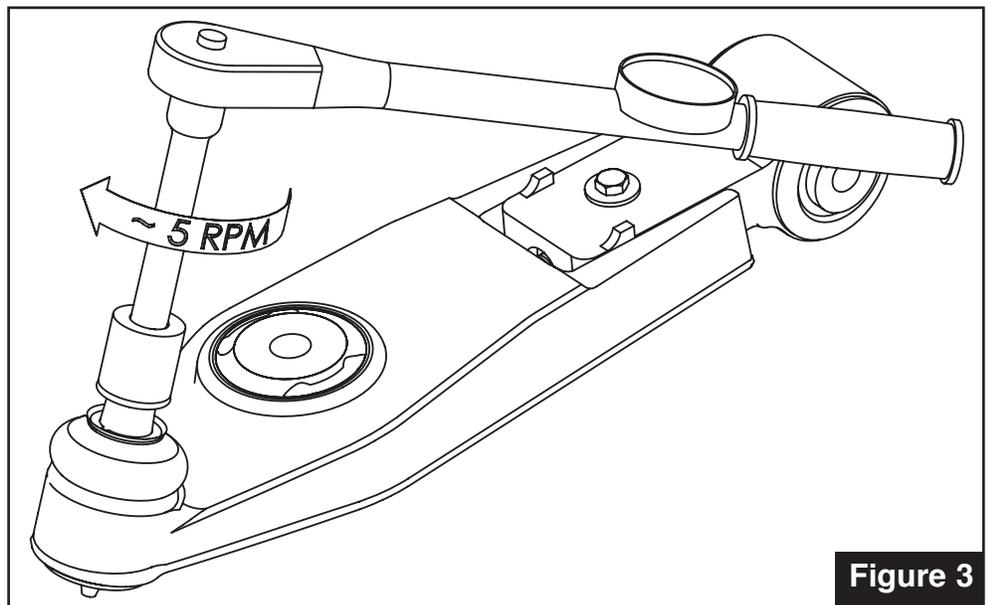

Figure 3
14. Using dial-type torque wrench or similar, rotate ball stud at approximately 5 rpm with stud roughly perpendicular to retainer face. Slowly tighten threaded retainer cap until turning torque of ball stud reads between 2-9 Nm (18-80 lb-in) **see Figure 3**.